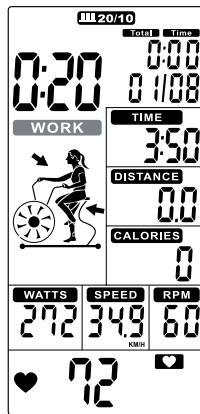

Figure 29
3. During the **WORK** phase, the cycle timer will count down from 10 to 0, and the **WORK** icon will flash once per second. The REMAINING window will light up and count down from 4 minutes. During this phase, the **TOTAL TIME, DISTANCE, CALORIES, WATTS, SPEED, and RPM** will start calculating. The counter will display "01/08" (see Figure 29).